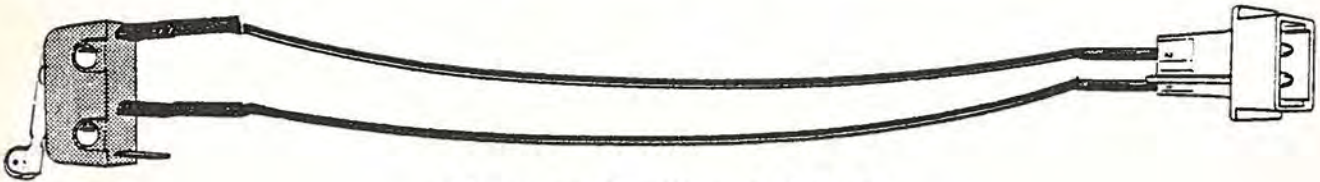

Figure 5-68 Micro Switch A
Bag 3 contains a pair of micro switches. These are wired with 22-18 gauge (black) wire. Terminal and pin connections are insulated with heat shrink tubing. Carefully note the location on Figures 5-68 and 5-69 of the terminals which are to be wired.
- b. Using Figure 5-68 as a guide, attach the other end of the 6 inch wire to micro switch terminals 1 and 2 (specified in the illustration). Solder into place.